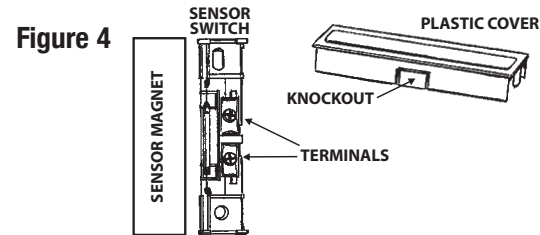

Figure 4
- Note: If the cover for the sensor switch does not lock into place because of the sensor wires, remove the knockout from the side of the sensor switch cover. (See Figure 4)